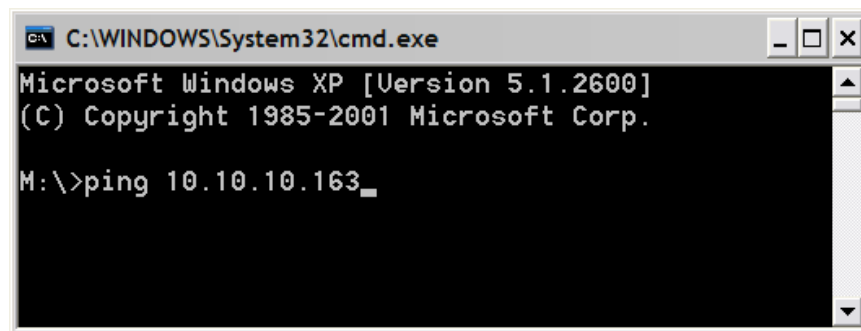

Figure 12. Pinging the Embedded System
3. At the prompt, type **ping** followed by a **space** and the **IP address** of the embedded system as shown in Figure 12. Press the **Enter** key when finished.